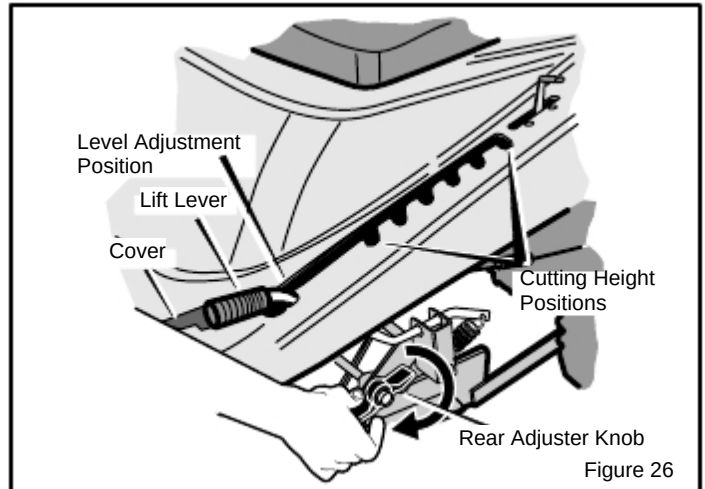
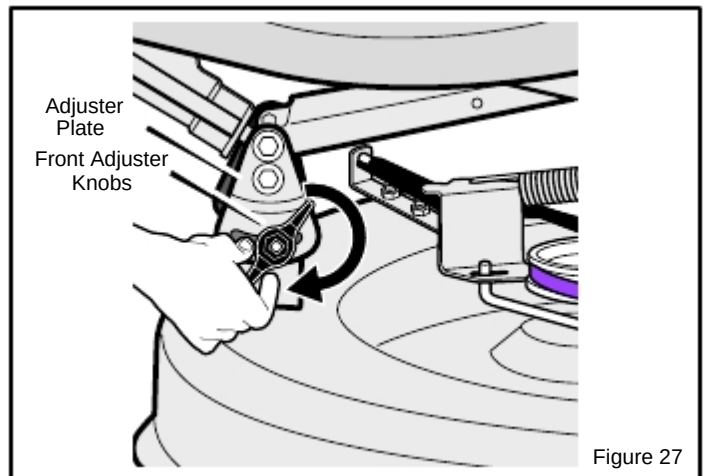

Figure 26
Figure 27
4. Open the **cover** (see Figure 26).
5. Move the **lift lever** to the LEVEL ADJUSTMENT position (see Figure 26).
6. Loosen the front and rear **adjuster knobs** (see Figure 26 and Figure 27). Make sure both sides of the mower housing are setting on a flat surface.
7. Check the clearance between the **link rod** and the **mower drive belt** (see Figure 27). If the link rod is resting on the mower drive belt, the level adjustment may not be correct. Push down on the **link rod** as shown in Figure 27. Make sure that the adjuster plate is loose and can easily move up or down.